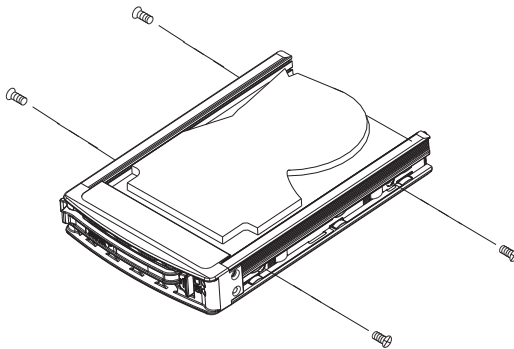

Figure 5-11. Securing Drive
4. Secure the hard drive to the tray using four screws (Figure 5-11).